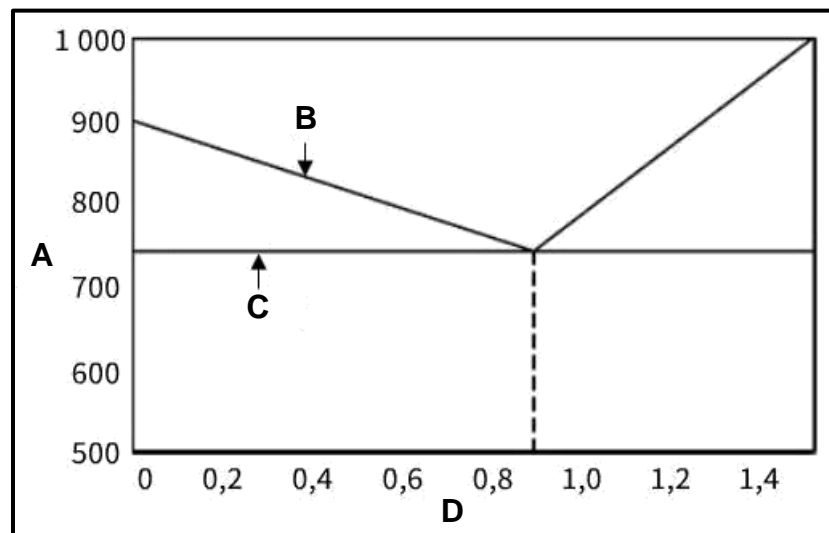

FIGURE 3.5
3.5 FIGURE 3.5 below shows an iron-carbon equilibrium diagram. Label **A** to **D**.